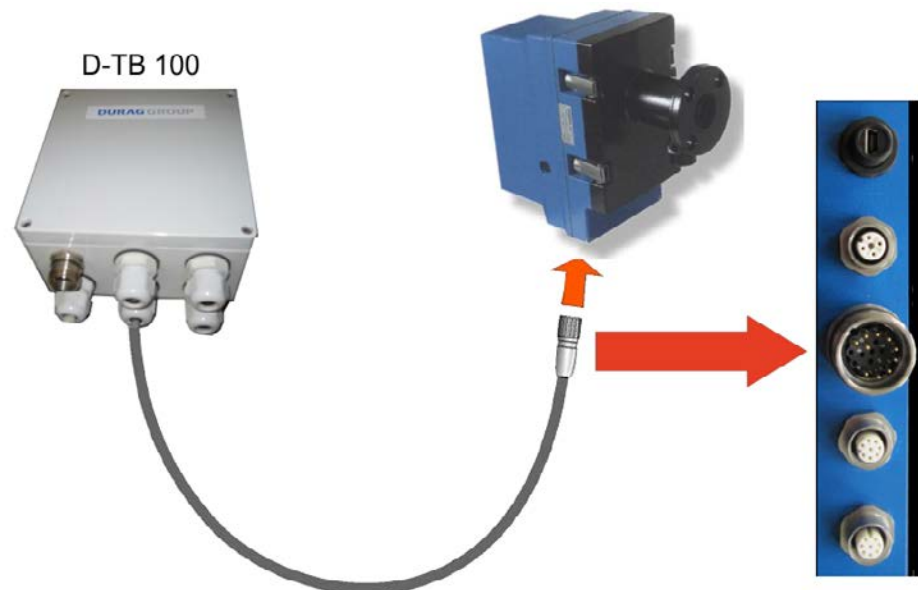

Fig. 5.28: Connecting the D-R 290 as an individual sensor to the D-TB 100 supply unit
- As a stand-alone device with only one D-TB 100 and no control unit (Fig. 5.28). In this case, operation is performed using Modbus or a PC, laptop or tablet, using the D-ESI 100 operating software.